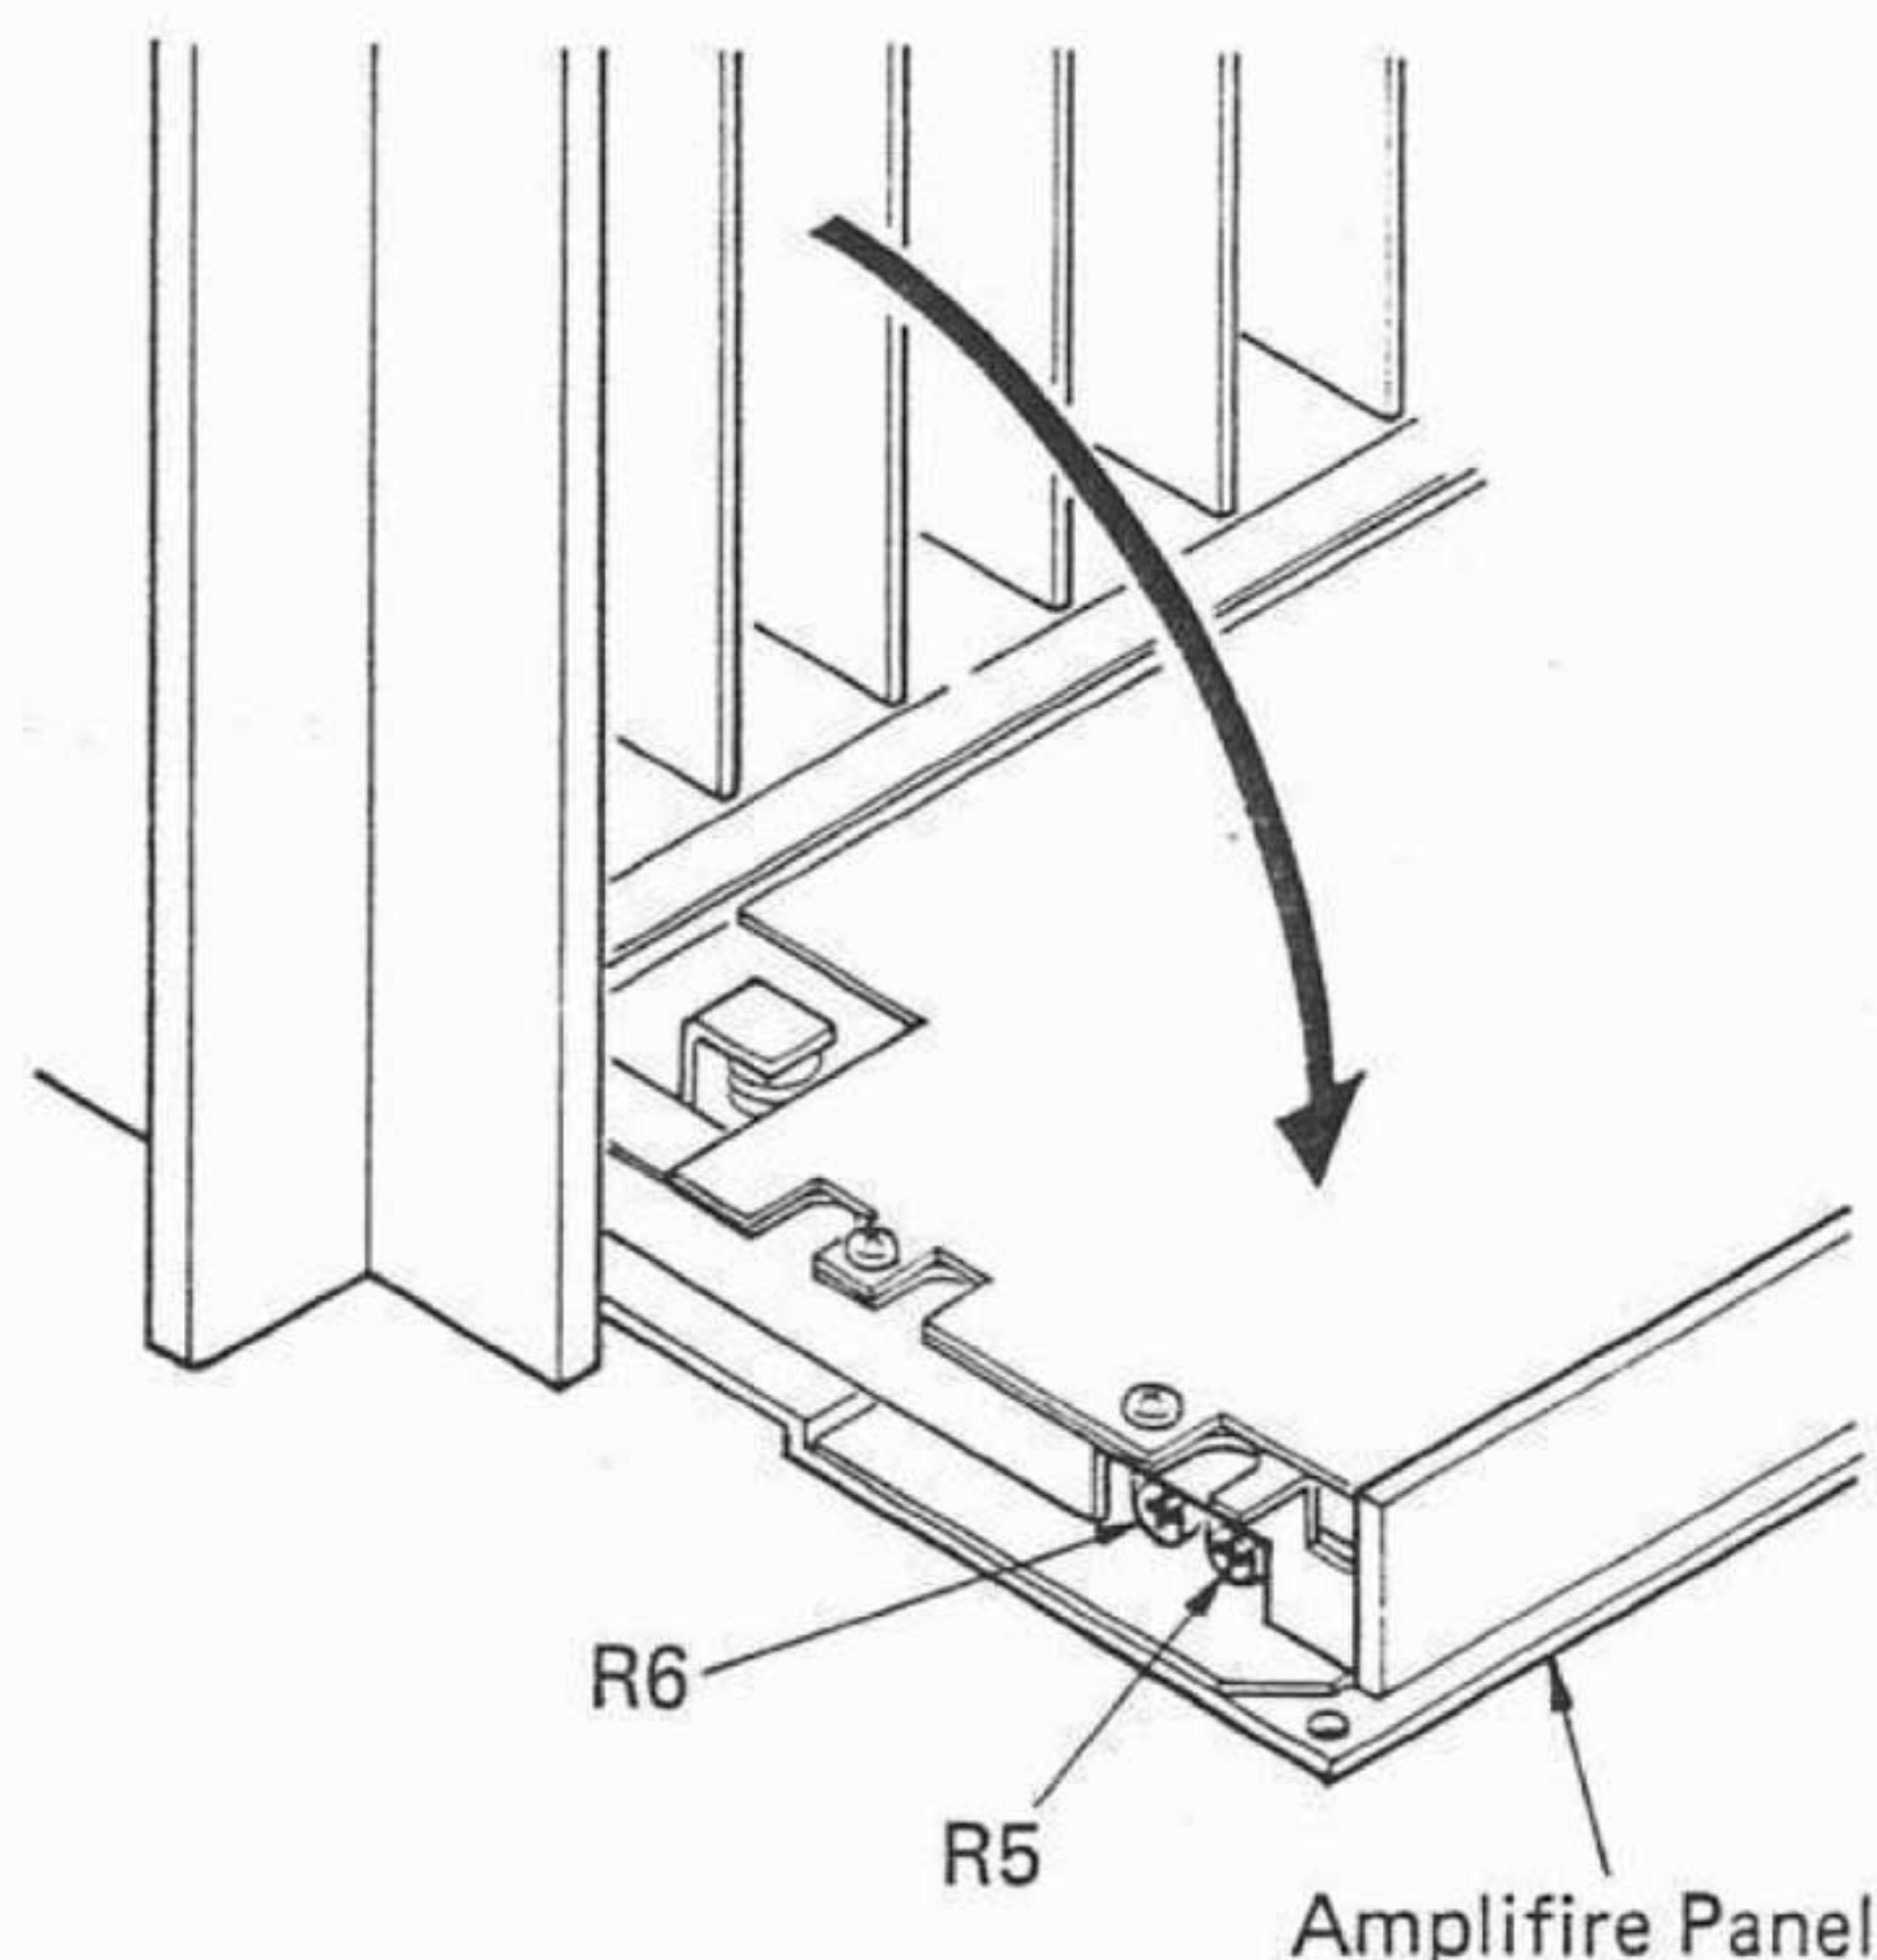

FIG. 22. "VARI" SPEED ADJUSTMENTS
3. Locate R5 and R6 on the DISPLAY PC Board (refer to Fig. 22) and set them to mechanical center.